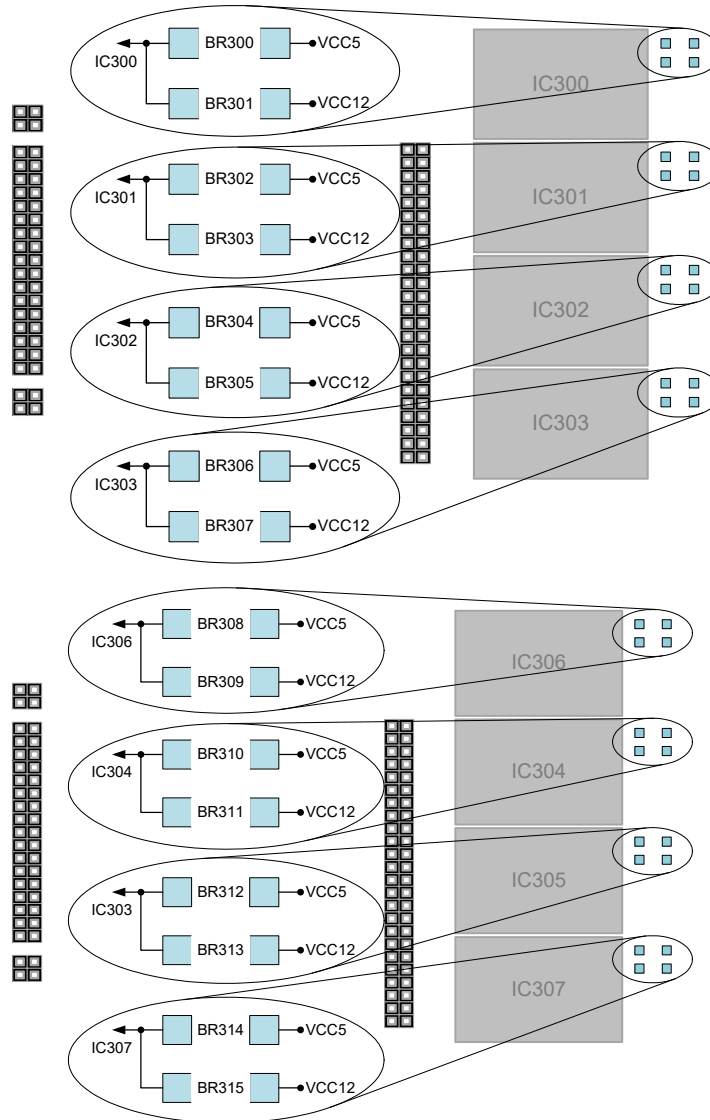

Fig. 4-1 Position of the DC/DC Converters and Solder Bridges at Slots 1 (Top) and 2 (Bottom)
- For the PB1652LAMBDA.1-B/C-Module 2, close the solder bridges BR309 and BR311, see Fig. 4-1.